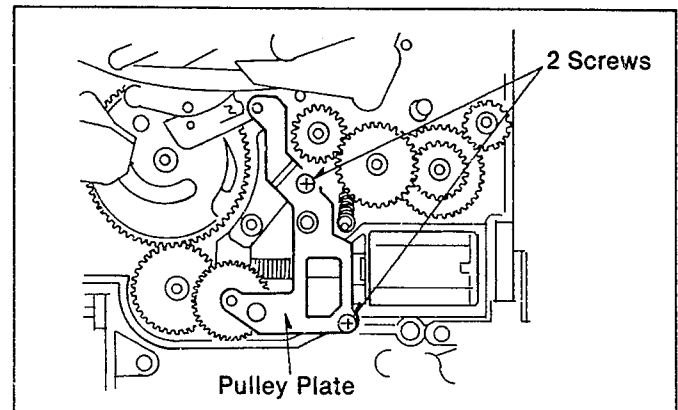

Fig. M28
- (1). install the Pulley Plate and then tighten the 2 Screws as shown in Fig.M28.